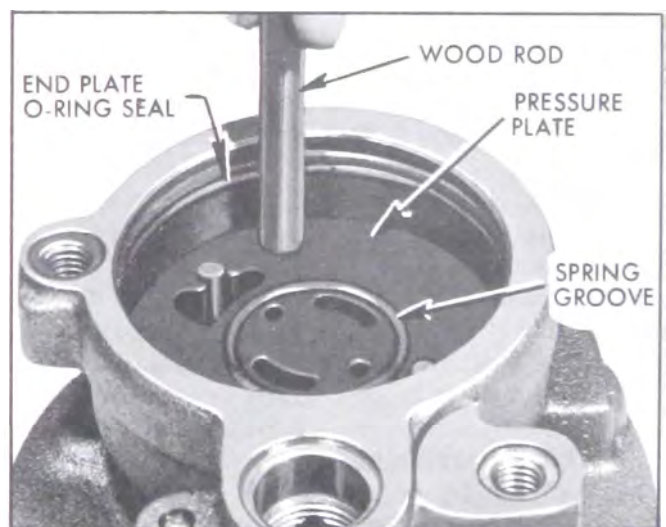

Figure 8-75—Seating Pressure Plate in Housing
8. Lubricate the outside diameter and chamber of pressure plate with petroleum jelly and install on dowel pins with ported face toward pump ring. Dowel pins fit into slots in plate that are nearest outside diameter of plate. Use a soft plastic or wood rod and lightly tap around outside diameter of pressure plate to seat it. See Figure 8-75. Pressure plate will travel about 1/16" to seat. Never press or hammer on the center of pressure plate as this will cause permanent distortion and result in pump failure.
9. Install new end plate O-ring seal in groove in bore of housing. Be sure not to install it in end plate retaining ring groove which is first groove from rear of housing. See Figure 8-75.